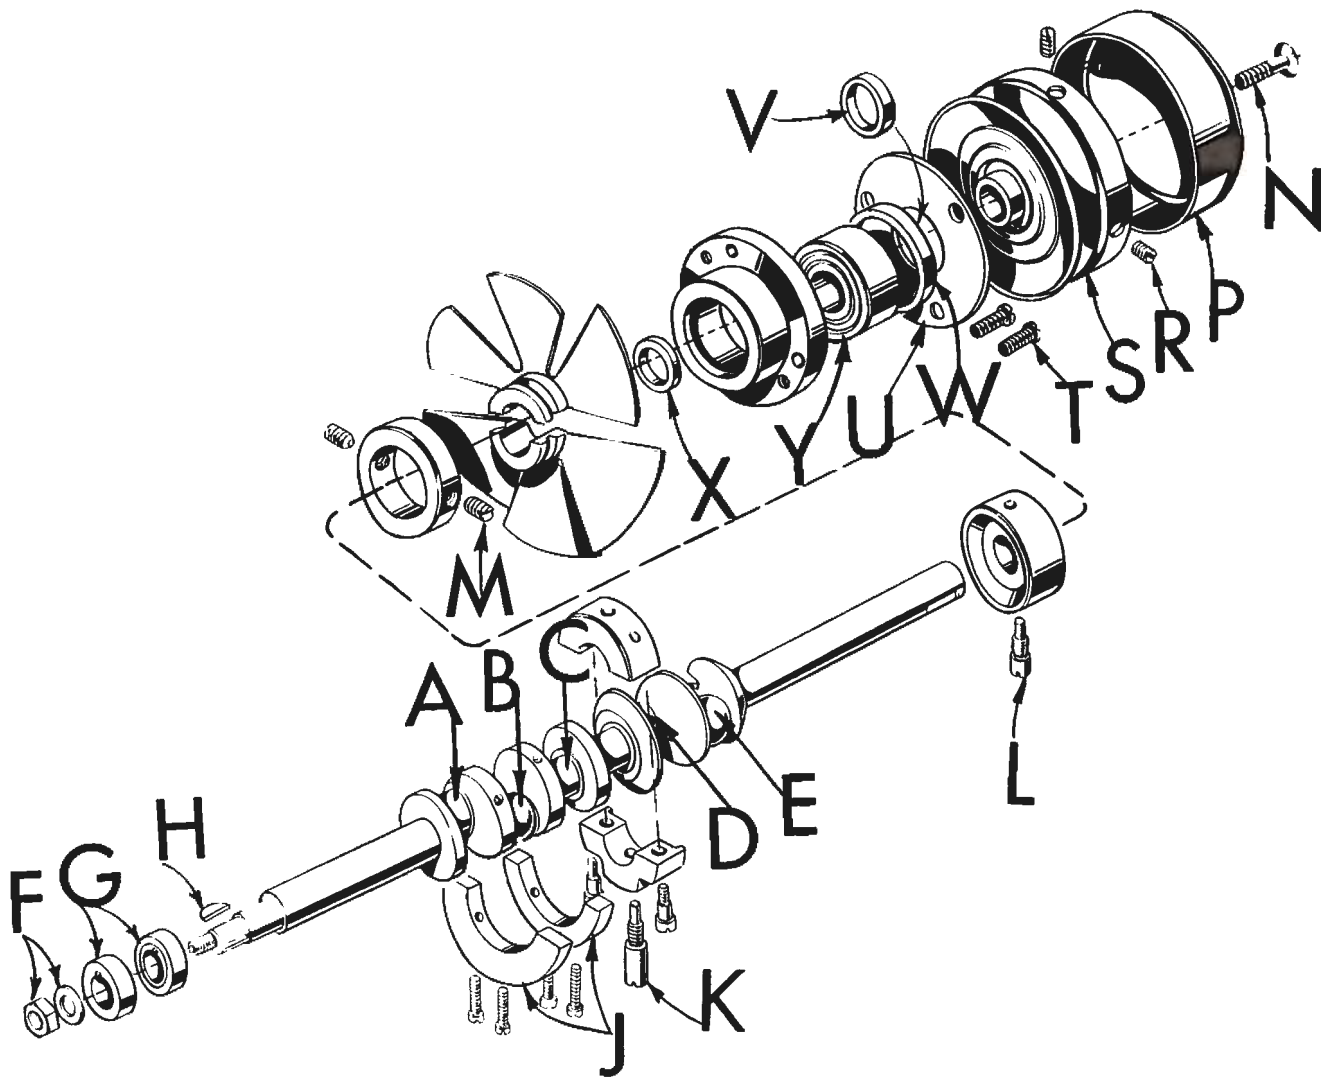
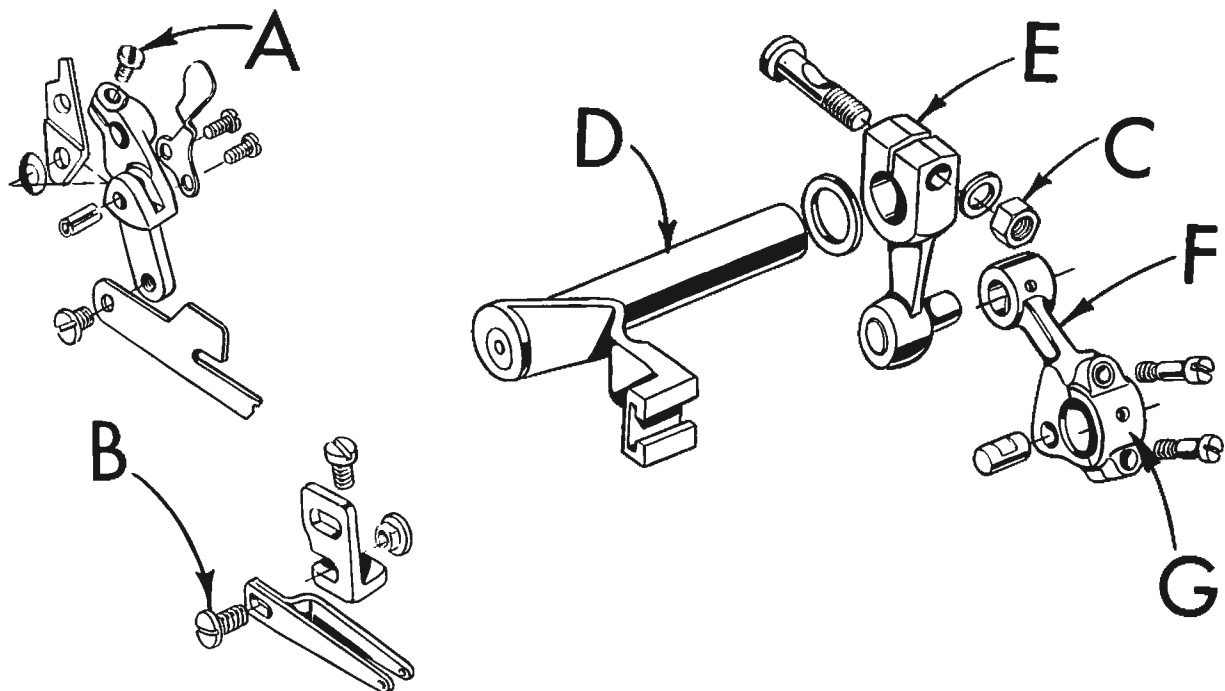

Fig. 20
Fig. 21
3. Remove the feed eccentric nut and washer (F, Fig. 20) and, with the aid of the eccentric extractor, slip off the eccentrics (G).
4. Remove key (H).
5. Remove two counterweights (J). Identify these counterweights so that they will be reassembled in the proper place.
6. Remove screw (K) which holds crankshaft split bearing. This screw is reached through bottom of bed casting.
8. Loosen clamp screw (A, Fig. 21) which holds eyelet bracket and swing bracket up. Loosen screw (B); swing eyelet up. Loosen clamp nut (C) which holds the upper knife driving arm (D). Access to clamp nut is through top cover. Draw driving arm to the left until upper knife driving lever (E) and connecting rod (F) drop, allowing removal of bearing cap (G). This is at bearing point (C, Fig. 20) on crankshaft. Observe same precautions when reassembling cap as described in paragraph 7.
9. Remove screw (L, Fig. 20) which holds inner right crankshaft bearing. This screw is reached through bottom of bed casting.
10. Loosen two screws (M) in fan collar; remove both halves of cooling fan.
11. Remove screw (N); take off pulley cap (P).
12. Loosen two screws (R); remove pulley (S).
13. Remove three screws (T); take off bearing retaining plate (U); also, spacer collars (V) and (W) may be removed at this time.
15. If necessary to replace ball bearing (Y), it can be pressed off shaft on an arbor press. In replacing the bearing it must be pressed on carefully until it seats against ground thrust washer (X).